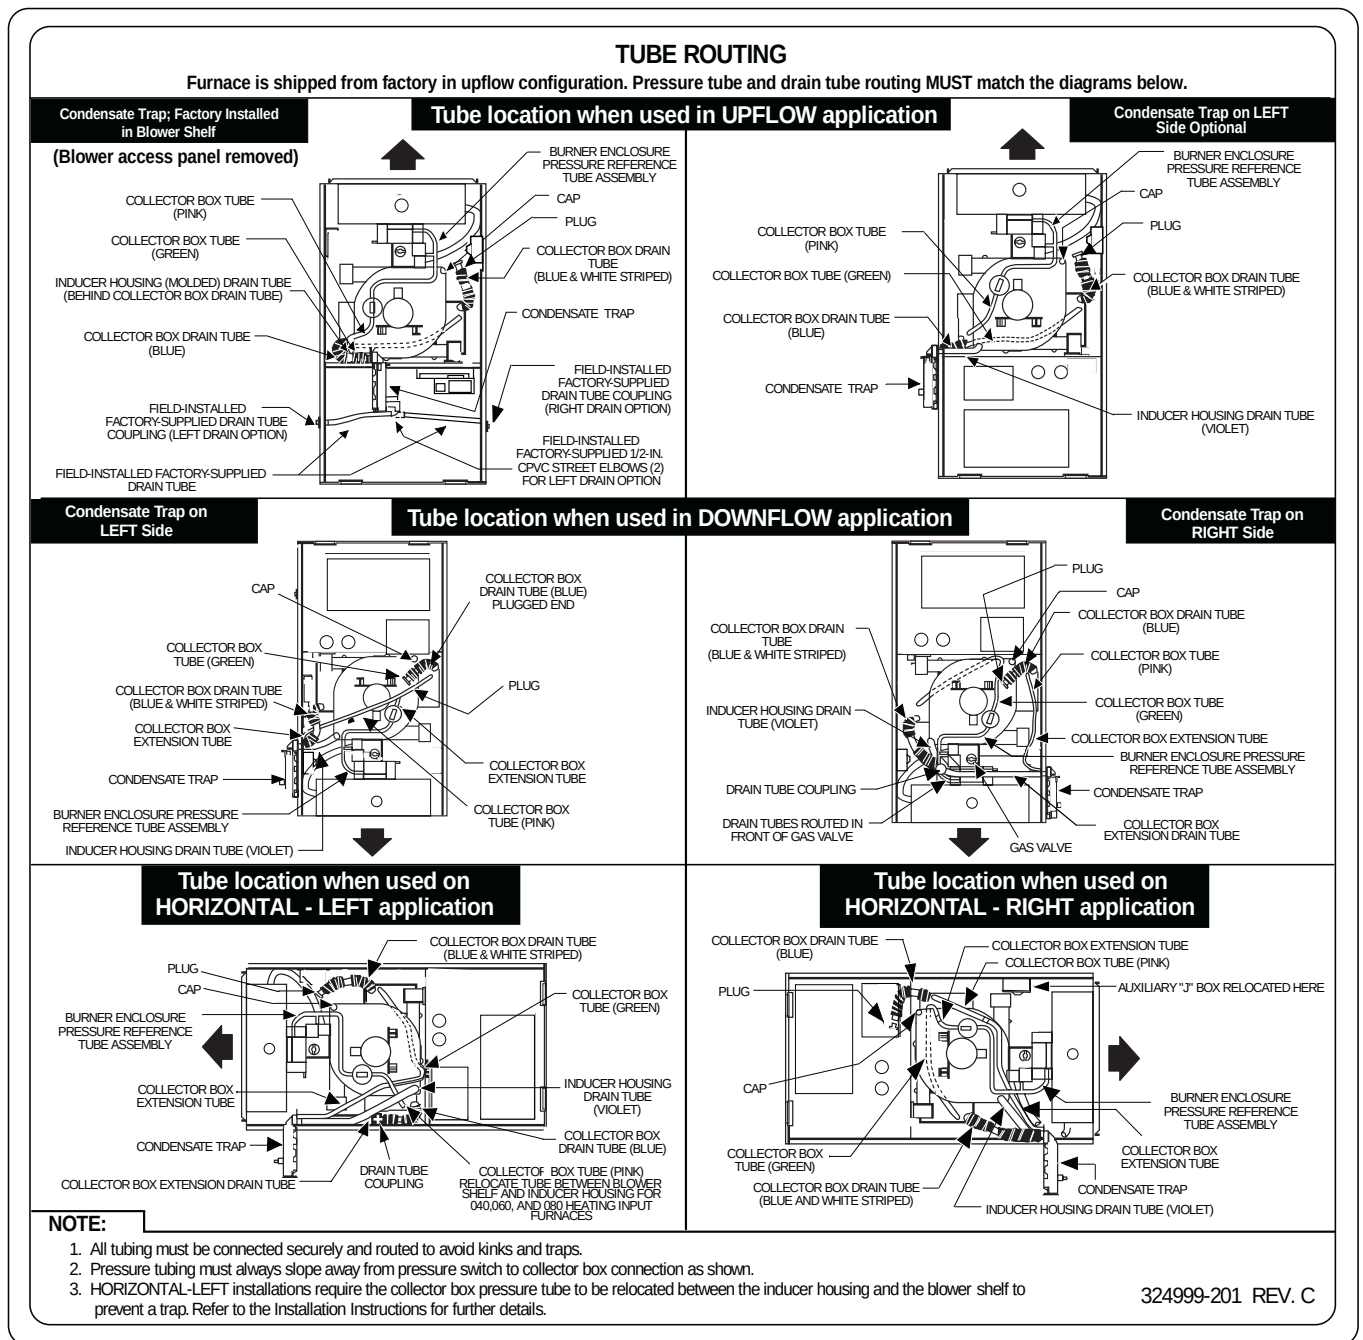

Fig. 8—Furnace Pressure and Drain Tubing Diagram
14. Reconnect pressure switch tubes to gas valve and intake housing. Refer to tube routing label on main furnace door for proper tube location. Be sure tubes are not kinked. (See Fig. 8.)
6. Disconnect drain tube from inducer housing. (See Fig. 8.)
12. Reconnect pressure tubes to pressure switch. See diagram on main furnace door for proper location of tubes. Be sure tubes are not kinked. (See Fig. 8.)